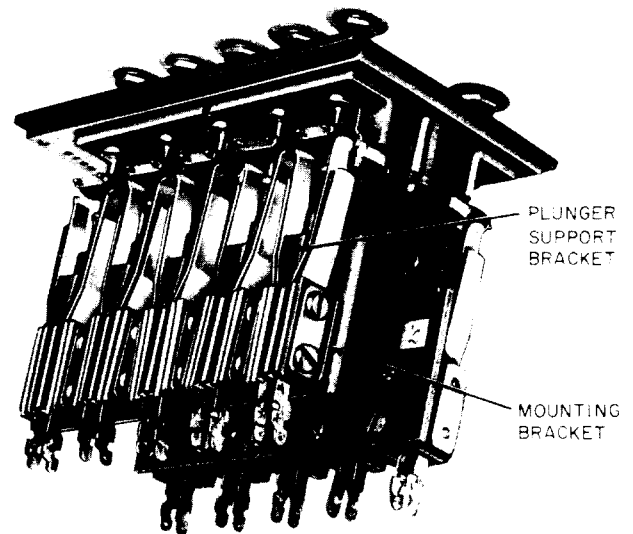

Fig. 1—♦New Plunger Rod Support Assembly♦
- Add a new Fig. 1 which illustrates an improved support for the plunger rod assembly used on the 545-, 575-, 591-, A28-, A34-, A36-, B23-, B26-, and G3-type keys.
1.07 ♦An improved support for the plunger rod assembly is illustrated in Fig. 1.♦